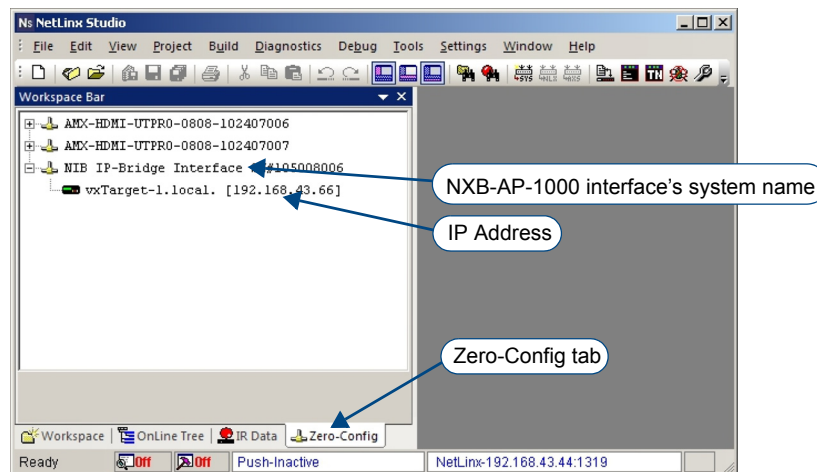

FIG. 42 NetLinx Studio showing the Zero-Config tab and the IP address for an NXB-AP-1000 interface
2. Right-click anywhere in the Workspace and select Refresh Zero-Config List to generate an initial listing of all Zero-Config devices that have been detected (FIG. 42).